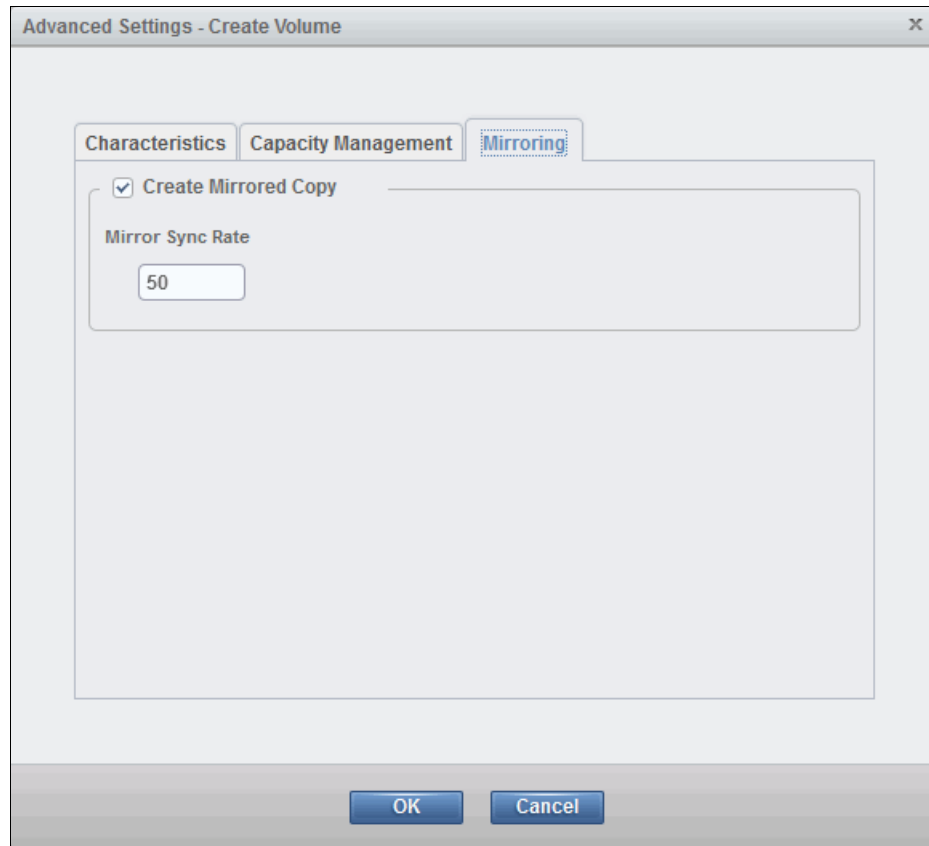

Figure 5-13 Advanced Mirroring options for mirrored volumes
5. The **Characteristics** and **Capacity Management** tabs are the same as for generic volumes. However, there are more options under **Mirroring**, as shown in Figure 5-13.